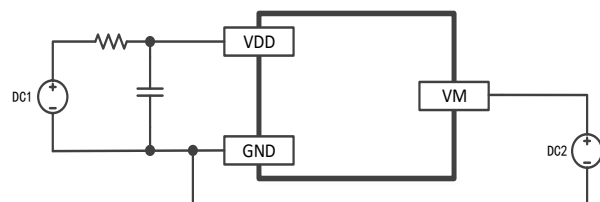

Figure6-2
- a. According to the figure6-2, connect the power supply DC1 to the B + and GND pins of the system board and set the voltage to about 3.6V. Connect the DC2 power supply from VM to GND, set the 100mV current limiting 10mA, and observe the waveform.